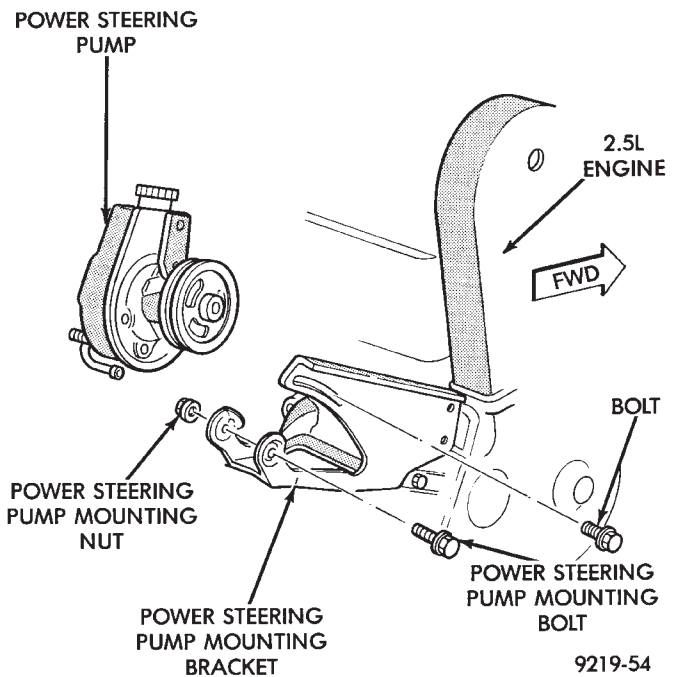

Fig. 3 Power Steering Pump Remove And Install
(5) Loosen but do not remove, nut holding the back of the power steering pump to its mounting bracket (Fig. 3). Then remove bolt attaching the pulley side of the power steering pump to the mounting bracket (Fig. 3).
(6) Lower Vehicle. Remove bolt retaining the power steering pump in adjusting slot of the power steering pump mounting bracket (Fig. 3).
(7) Remove power steering pump from vehicle. Pump is removable from the top of the vehicle. Lift power steering pump out of mounting bracket, rotate and lift it out between the engine and dash panel.
(8) Transfer the required parts from the removed power steering pump, to the replacement power steering pump.
(1) Install power steering pump back in vehicle in the reverse order of removal.
(2) Install power steering pump back on mounting bracket. Be sure stud on back of power steering pump is in slotted hole in bracket. Install bolt attaching power steering pump to adjusting slot in bracket (Fig. 3). Do not tighten nut or bolt.
(3) Raise vehicle See Hoisting, Group 0.
(4) Install the bolt attaching the pulley side of the power steering pump to the mounting bracket (Fig. 3). **Do not fully tighten the bolts.**